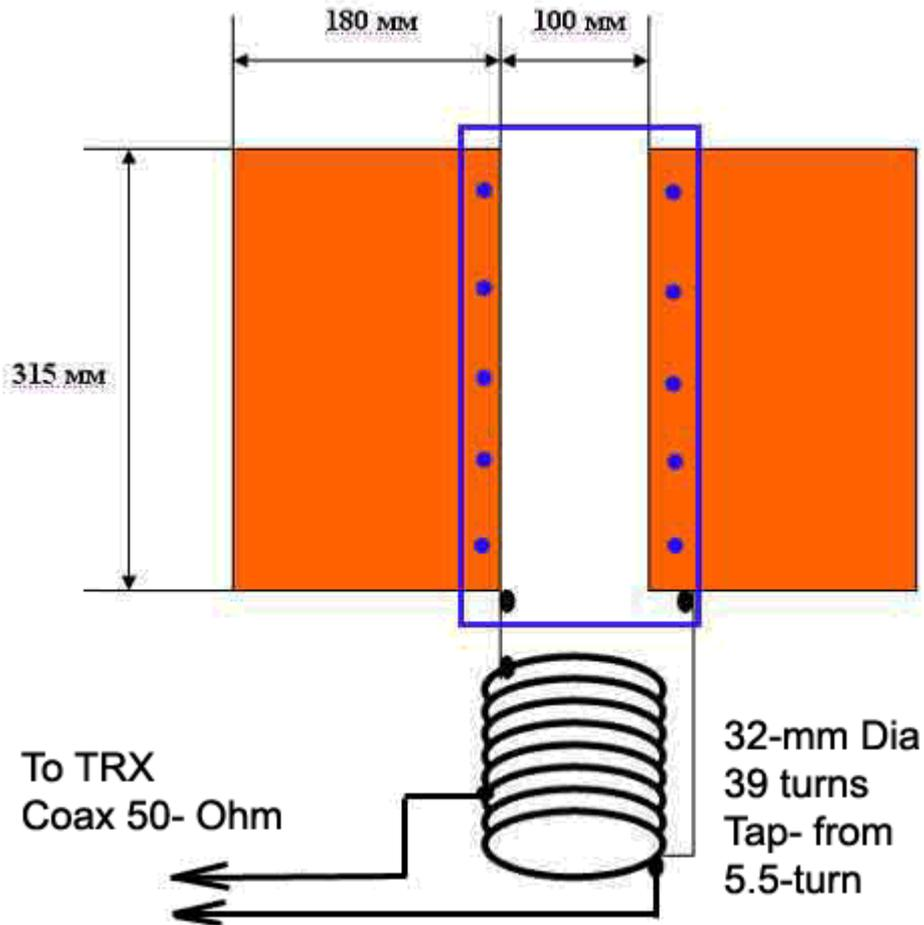

Figure 2 Draft of the Flat EH- Antenna
Figure 2 shows the antenna draft. In Blue there are shown item 2 and item 4.
Take item 2. Put it on a desk. Take item 1 and put it above item 2 according the draft (**Figure 2**). Put item 3 above item 1. Fasten the sandwich (item 2 to item 1 to item 3) with help of item 4. 50% of the job is done.